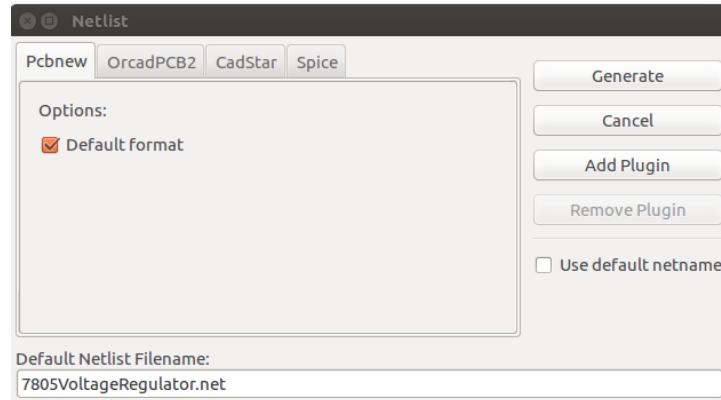

Figure 16.9: Netlist generation for PCB
- In the *Netlist* window, under the tab *Pcbnew*, Select the option **Default format**. This is shown in Fig. 16.9. Click on **Generate** option.